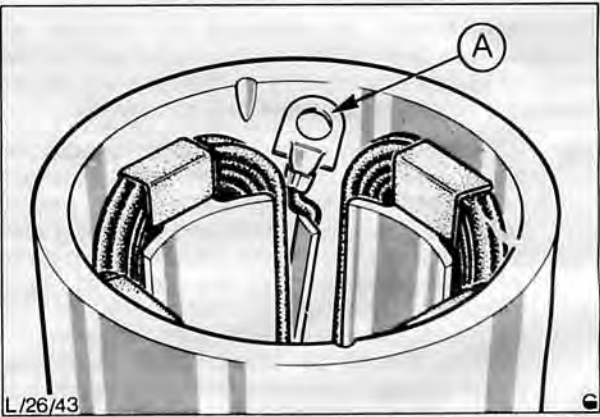
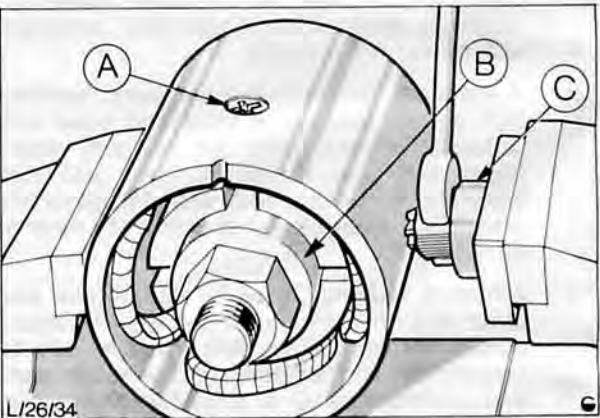

Fig. 87. Check rivet for good connection
Fig. 88. Removing pole screws
12. Field coils should be visually inspected *in situ* for signs of obvious faults. Check inter-connecting joints between coils, earthed connection of field winding where it is riveted to yoke, Fig. 87. Look for discolouration of winding insulation tape which could indicate short circuit windings or a short between winding and yoke. If there are no obvious signs of a fault, field coils should be tested as laid out in test procedure. (Starter motor type 5M90.) To change field coils remove rivet which attaches field coil earth lead to yoke. Insert pole shoe expander, Special Tool No. CP9509, and remove pole shoe screws, using pole-piece screwdriver Special Tool No. CP9504, Fig. 88. Wipe clean inside of yoke and insulating pieces in which through bolts locate.